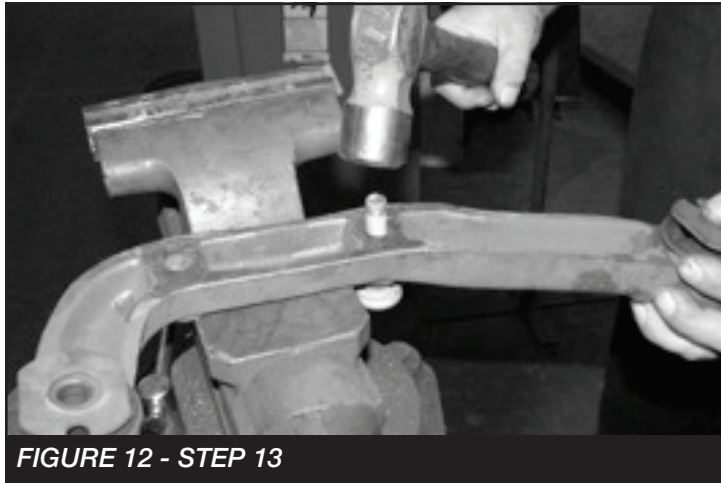

FIGURE 12 - STEP 13
13. Remove the factory studs from the differential mount and reinstall the differential mount. **SEE FIGURE 12**